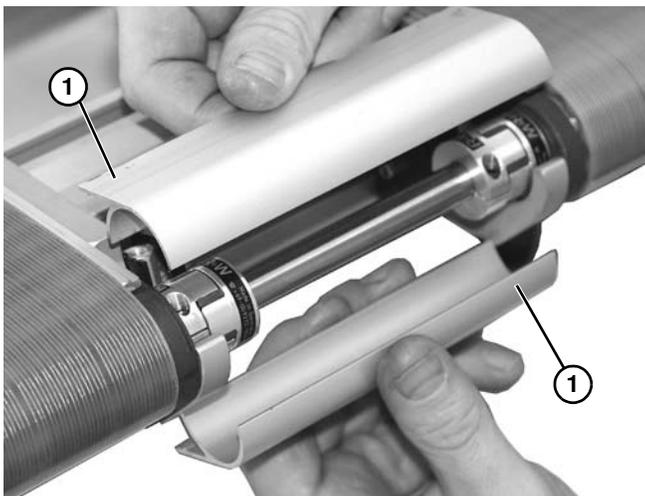

Figure 31
12. Install top guard and bottom guard (Figure 31, item 1) over shaft and 3-jaw couplers.